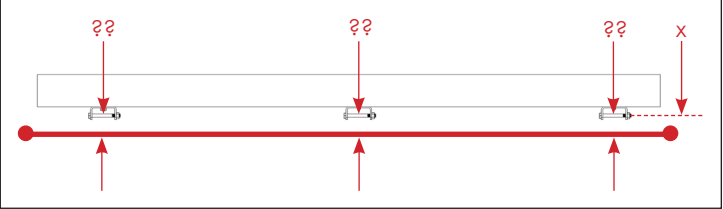

Figure 7: Verify Vertical Member Alignment
Measure (X) a set distance at both ends of the structure from the front face of the fascia and stretch a line tight between the two points as shown in **Figure 7**.
Measure (??) from the pin location to the string line vertically at each wall channel location as shown in **Figure 7**. If the difference between any measurements exceeds $\pm 1/4"$ [± 6.4 mm], adjust the structure (if possible) or plan ahead for section adjustments during display section installation.